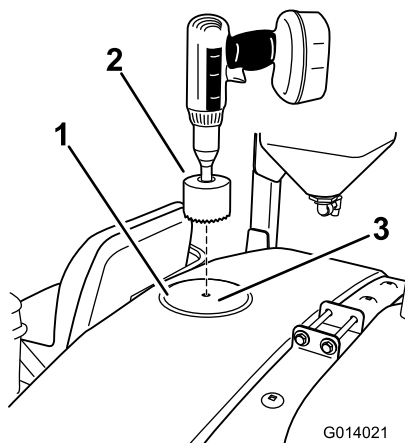

Figure 20
1. Locate the forward location on the top of the tank as shown in Figure 20. Locate the drill mark in the center of the molded circle.
2. Use a 3-5/8 inch (~9 cm) hole saw to drill a hole at the drill mark (Figure 20). The hole will need to be increased in diameter slightly to accommodate the bulkhead.